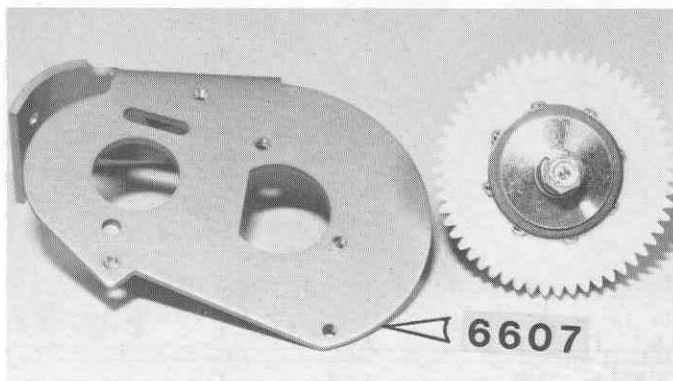

Fig. 80
□ **Fig. 80** Take the #6607 motor mount out.